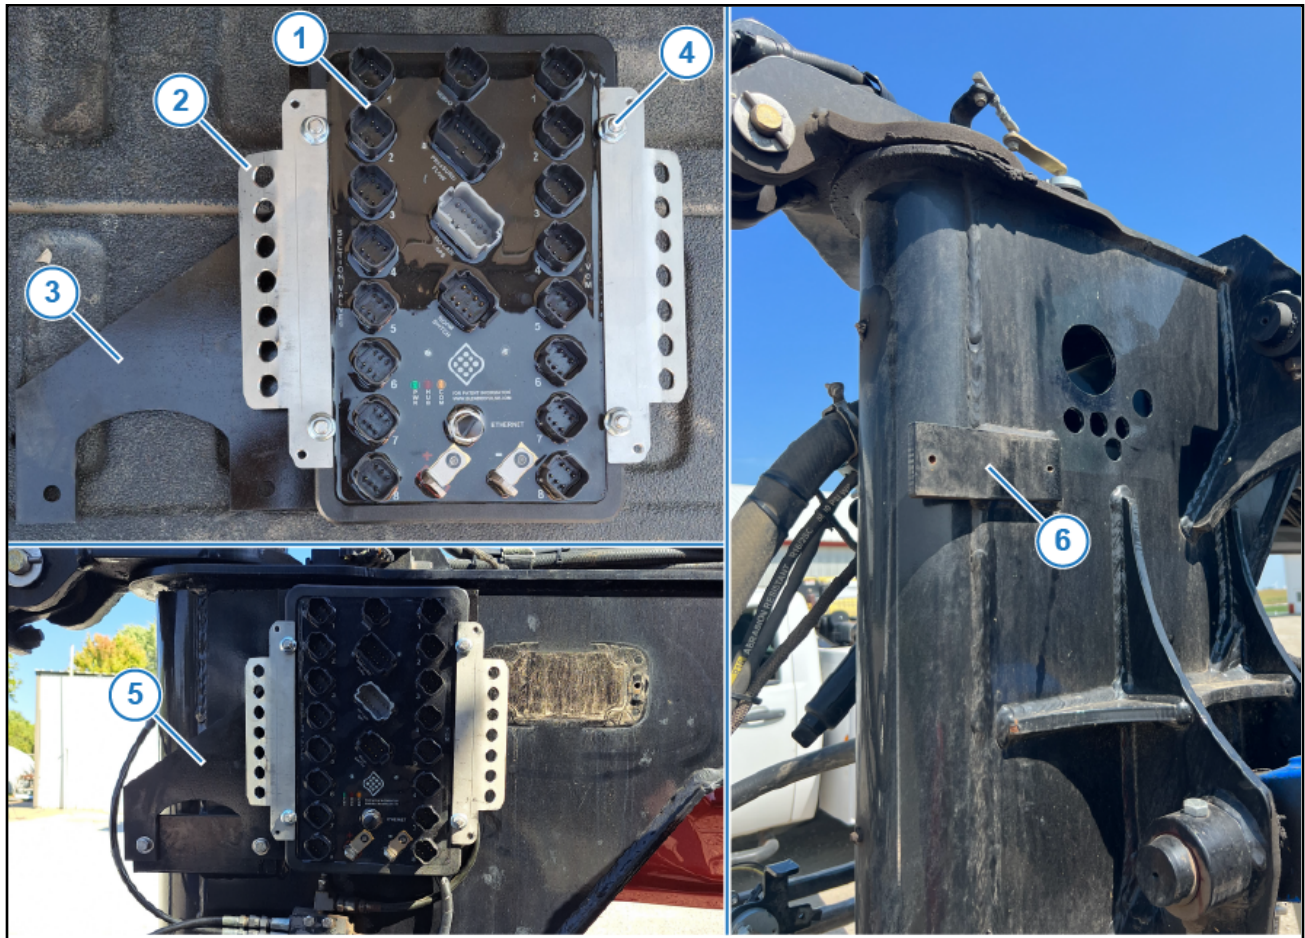

Figure 5: Vertical Mounting Bracket Installation
11. Install the Envelop Hub (Figure 5, Item 1) and strain relief brackets (Figure 5, Item 2) onto the mounting bracket (Figure 5, Item 3) using the included 5/16" x 2 1/4" bolts and 5/16" nuts (Figure 5, Item 4).
12. Secure mounting bracket and Envelop hub assembly (Figure 5, Item 5) to existing holes in boom bracket (6) using 3/4" cap screws (713501-406). Proceed to Step 13.